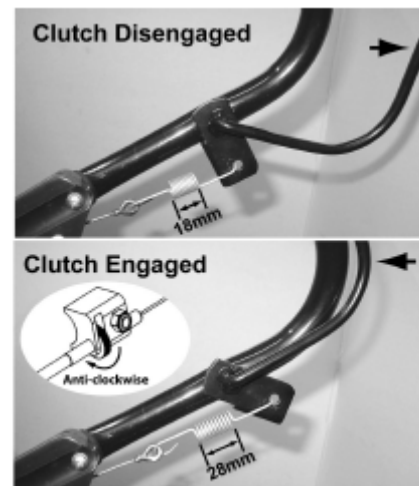

Figure 18.
Adjusting the Drive Cable- refer figure 18.
- Measure the length of the clutch spring (18mm) when the clutch engagement lever is in the disengaged position. Refer to figure 18.
The clutch spring should be stretched 10mm longer (28mm). Refer to figure 18.
- To adjust the clutch spring stretch rotate the thumb wheel (A) on the cable support block (one click at a time).
To increase the stretch rotate the thumb wheel (A) in an anti-clockwise direction. To decrease the stretch rotate the thumb wheel (A) in a clockwise direction. Refer to figure 18.